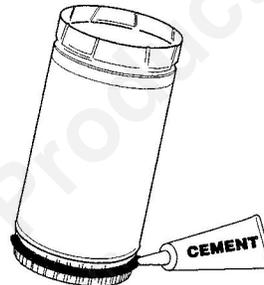

Figure 28. Apply cement to the crimped end of the Simpson-Dura-Vent Adapter pipe.
2) Apply a 1/4" bead of cement around the *outside* surface, about one inch from the crimped end. Insert that end *into* the outer flue collar and secure it with the three sheet metal screws supplied. Fig. 28.